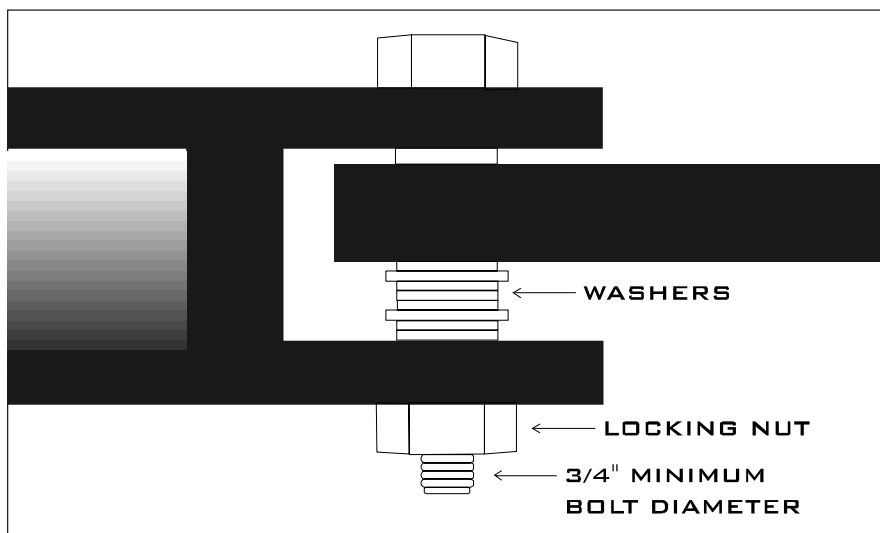

Figure 2: A 3/4 inch hitch bolt and washers fastened with a locking nut at the bottom of the hitch.
2. Hitch bolt to be *not less than 3/4 inch* in diameter and securely fastened with a locking nut, so it will not come out in travel and hitch will not bend. (Figure 2)
3. Minimize vertical hitch play with washers. (Figure 2)